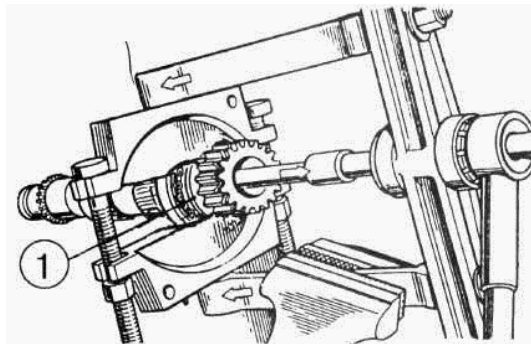

Figure 4.71
c) press off bearing 1 (Figure 4.71);